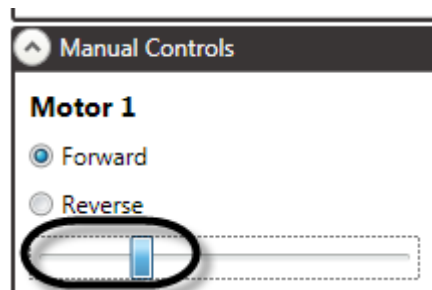

Figure 68
4. In the **Manual Controls** section of the **Motor Editing Pane** (Figure 68) run the motor forward or reverse as far as you safely can.